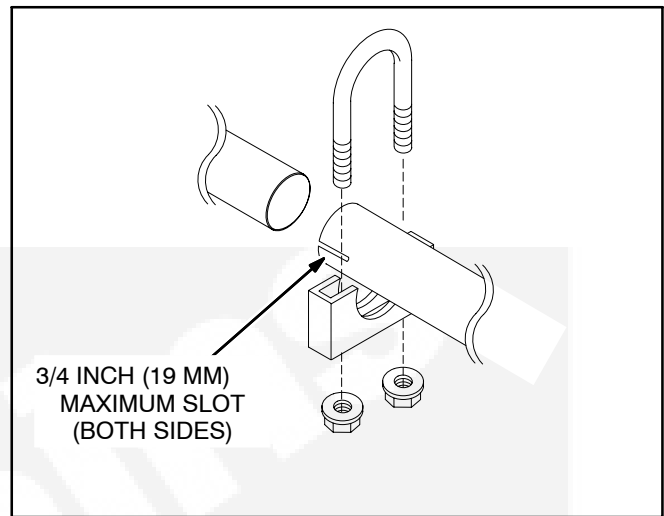

FIGURE 2-4. EXHAUST TAILPIPE CONNECTIONS
3. Use U-bolt muffler clamps to connect sections of tailpipe. It is recommended that the overlapping pipe be slotted as shown in Figure 2-4.